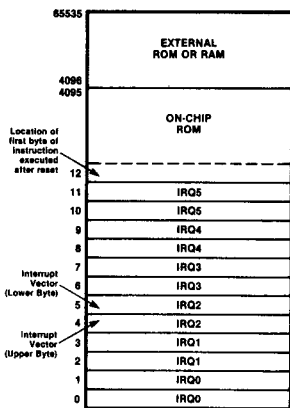

Figure 4. Program Memory Map
**Program Memory.** The 16-bit program counter addresses 64K bytes of program memory space. Program memory can be located in two areas: one internal and the other external (Figure 4). The first 4096 bytes consist of on-chip mask-programmed ROM. At addresses 4096 and greater, the Z8611 executes external program memory fetches.